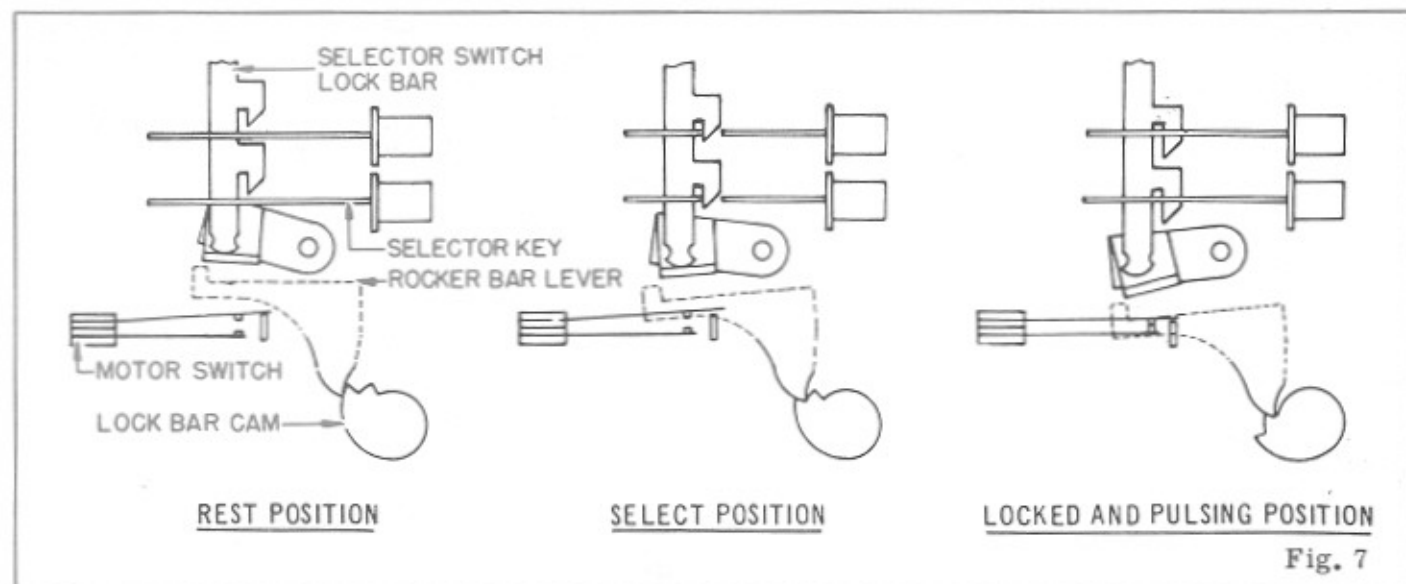

Fig. 7
There are three important positions of the cam cluster for each cycle, namely, the Rest Position, Select Position, and the Locked and Pulsing position. These positions are shown in Fig. 7.
1. Turn the gear motor manually until the rocker bar lever falls into the first notch of the cam farthest away from the contact biscuit assembly. (See "Select Position" of Fig. 7.)